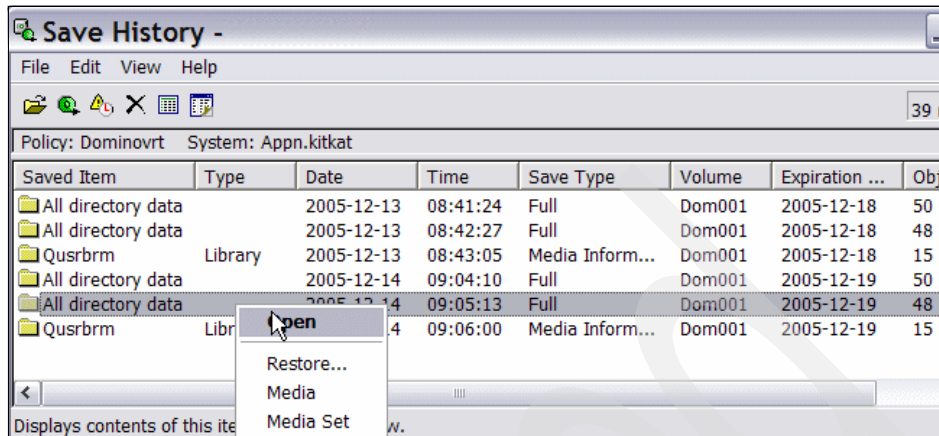

Figure 5-84 Restore Domino data with BRMS, Save History - select
4. In the Save History window shown in Figure 5-84 on page 265, right-click the relevant joblog and select **Open**.